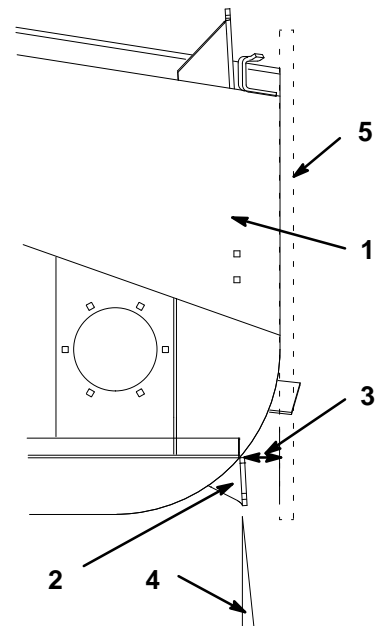

Figure 3
1. Using the straight edge along the right side of the unit, measure over 2-13/32 in. from the straight edge to locate the position for bracket (Fig. 3).
4. Remove paint from areas that will be welded (Fig. 3 and 4).
5. Weld bracket to the mower deck. Weld at a 3° angle (Fig. 3 and 4).